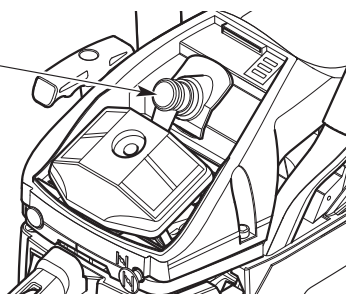

Fig. 44
- Grasp the spark plug boot firmly and pull it from the spark plug (Fig. 44).